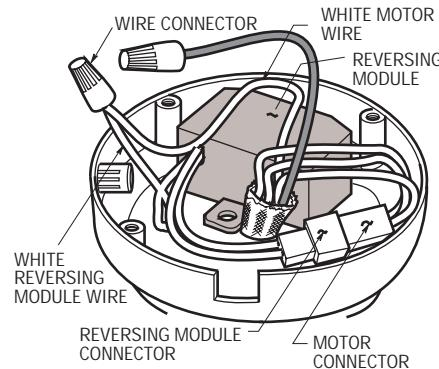

Figure 6
9. Position the reversing module (supplied) in the switch cup; connect the reversing module connector to the motor connector (Figure 6). The connectors are color-coded and keyed and can be connected in only one manner.
10. Using a wire connector (supplied), connect the white wire from the motor to the reversing module white wire (Figure 6).